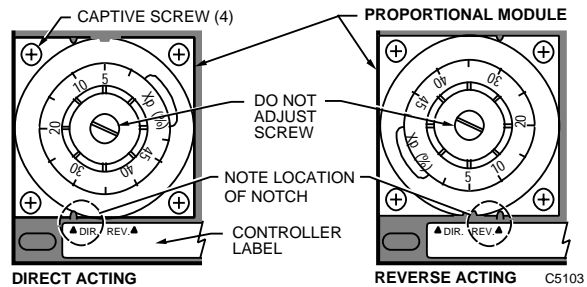

Fig. 4. Changing controller action.
1. Loosen the four Proportional Module screws (Fig. 4).